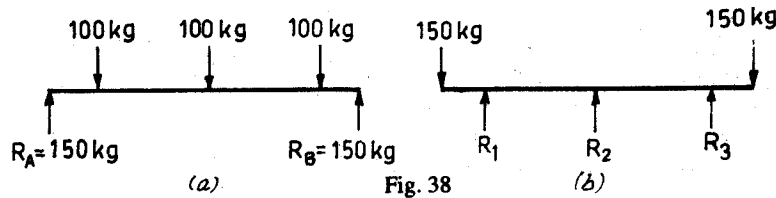

Fig. 38
80. Fig. 38 (a) shows a statically determinate beam. If loading is reversed as in Fig. 38 (b), then reactions $R_1, R_2,$ and R_3 will be
Sol. (e) In fact the case shown in Fig. 38 (b) becomes statically indeterminate as there are more supports than necessary and thus an infinite number of answers are possible.